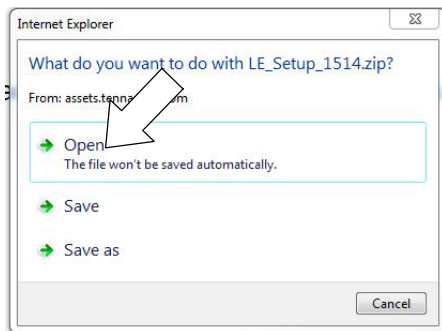

Fig. 26
5. To download the service software continue to click as instructed then click the Save button (Figure 26).